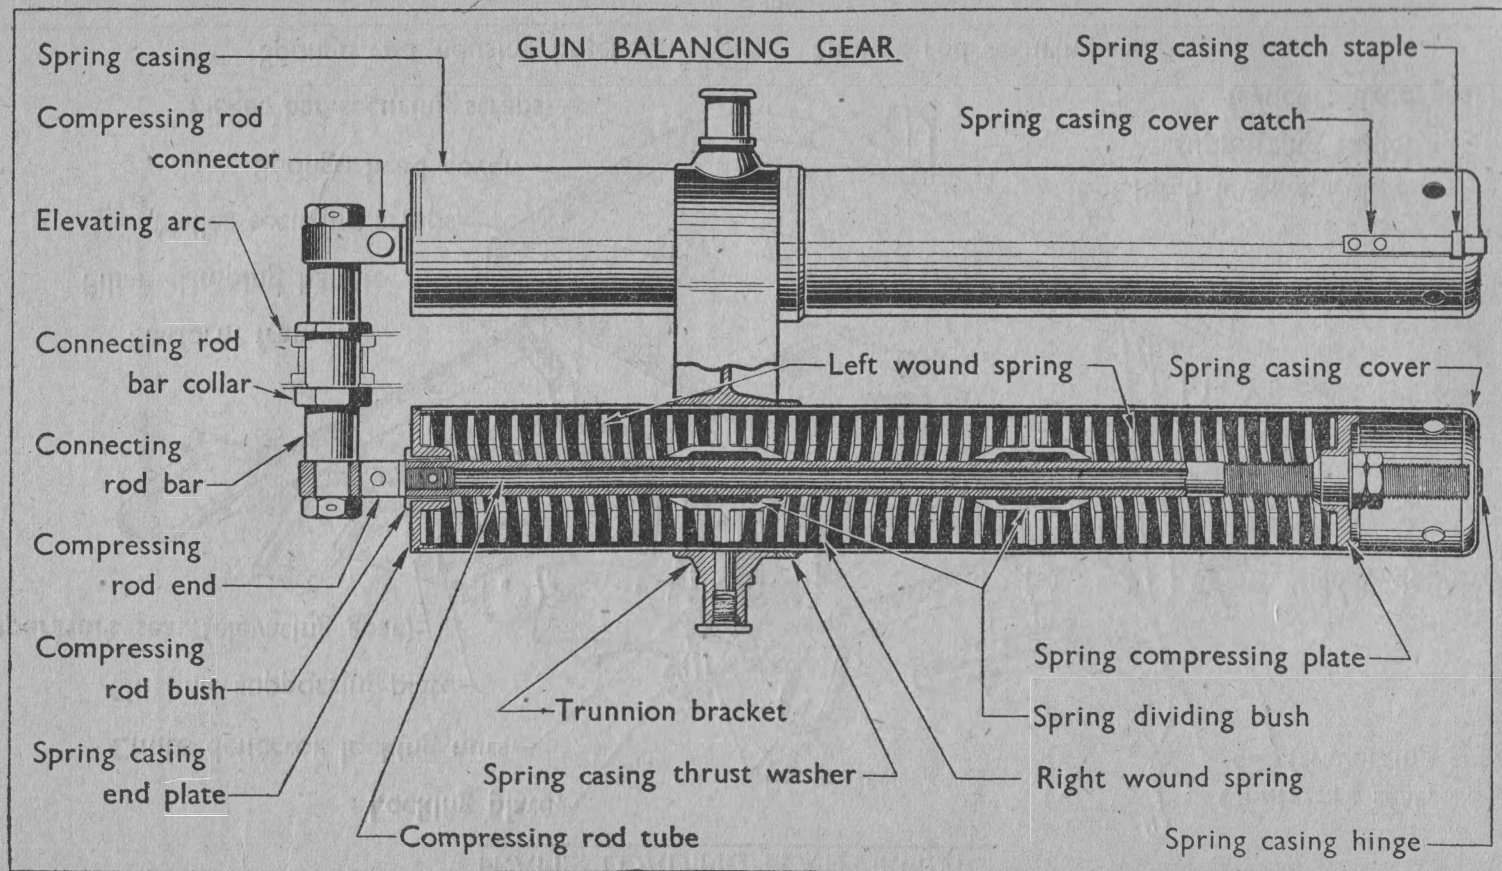

FIG. 21.
**43. The gun balancing gear** (Fig. 21) is provided to counteract muzzle preponderance and that of the breech casing, due to rear trunnions, and thereby balance the gun and breech casing to facilitate operating the elevating gear. It consists principally of two balancing spring presses, each comprising a spring casing, three spiral springs with dividing bushes, rod, end plate and spring compressing plate, also a rod end to connect each spring compressing rod to a rod connector assembled one on each end of a connecting bar secured to the elevating arc on the breech casing; the presses are secured in trunnion brackets on the body of the mounting. The sets of three springs consist of two wound left with one wound right in between them, and are kept apart by the dividing bushes. They are assembled on a springs compressing rod, the front end of which serves as an attachment for the springs assembling apparatus. The adjusting nut is formed with an external shoulder which forms a bearing for a spring compressing plate; the plate supports the front end of a spring. When the gun is vertical there is no muzzle preponderance. As the gun is depressed, muzzle preponderance comes into play, and the compressing rods are drawn to the rear thereby increasing the tension on the springs. The tension on the springs tends to rotate the elevating arc and relieve it of the pressure caused by the preponderance.